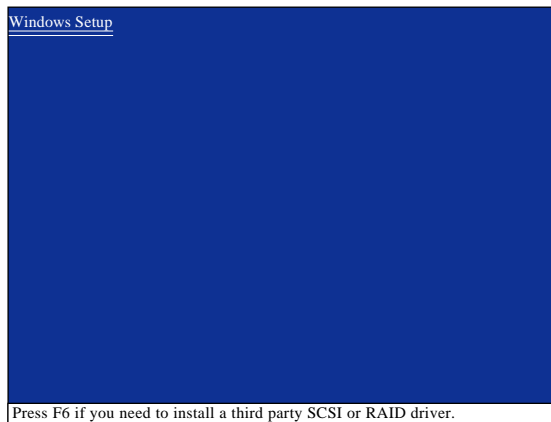

Figure 1
Step 1: Insert the prepared startup disk and motherboard driver disk in your system. Boot from the startup disk. Once at the A:\> prompt, change to your optical drive (example: D:\>). At the D:\> prompt, type the following two commands. Press <Enter> after each command (Figure 1):
Restart your system to boot from the Windows XP setup disk and press <F6> as soon as you see the message "Press F6 if you need to install a 3rd party SCSI or RAID driver" (Figure 1). After pressing <F6>, there will be a few moments of some files being loaded before you see the next screen.